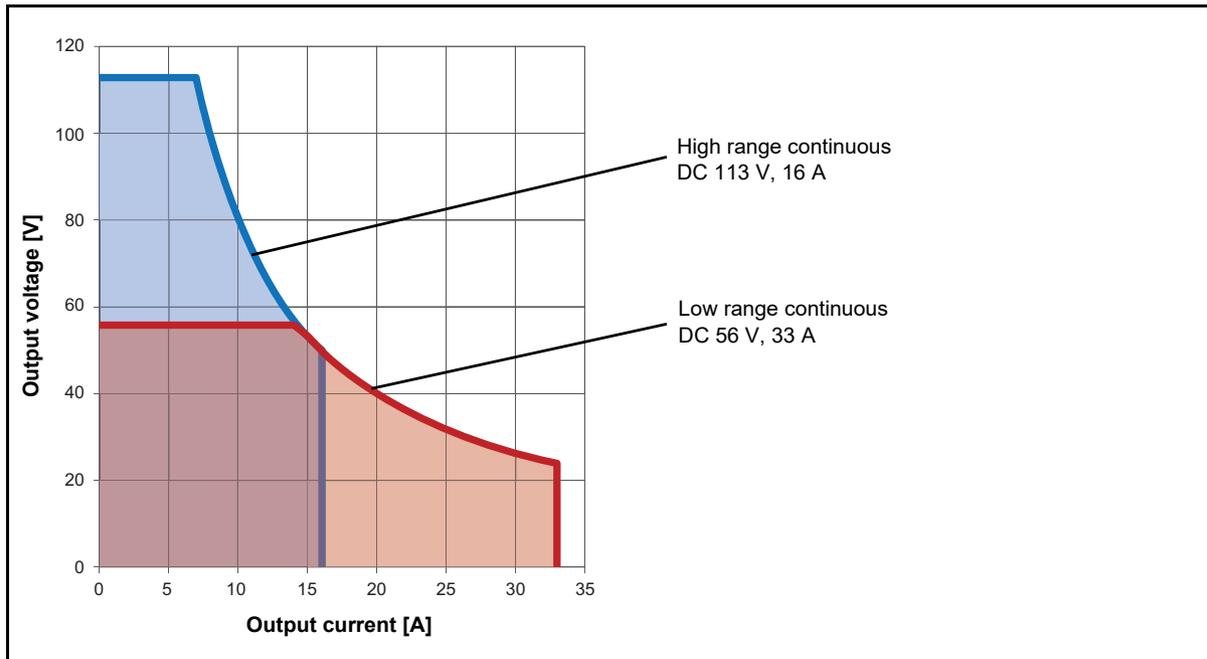

Figure 15-3: Permitted operating range 3 x DC 113 V 16 A
1. See Figure 15-3: "Permitted operating range 3 x DC 113 V 16 A" on page 261